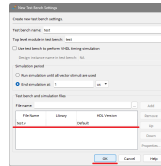

Figure 23: Click "OK"
14. Click "OK" in "New Test Bench Settings". (Figure 23)